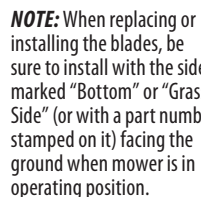

Figure 7
- Rotate the blade clockwise to align with the blade adapter. See Figure 7.